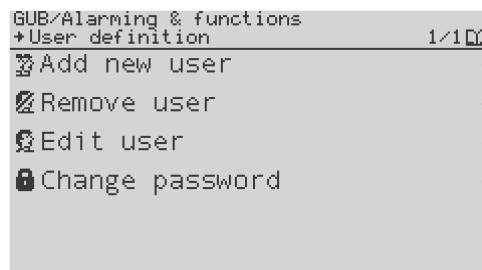

Figure 8-1 User definition
The display will revert to the **User definition** dialog box (Figure 8-1).
1. In the current site, select **Alarming & Functions** (Figure 8-1).
1. In the current site, select **Alarming & functions / User definition** (Figure 8-1).